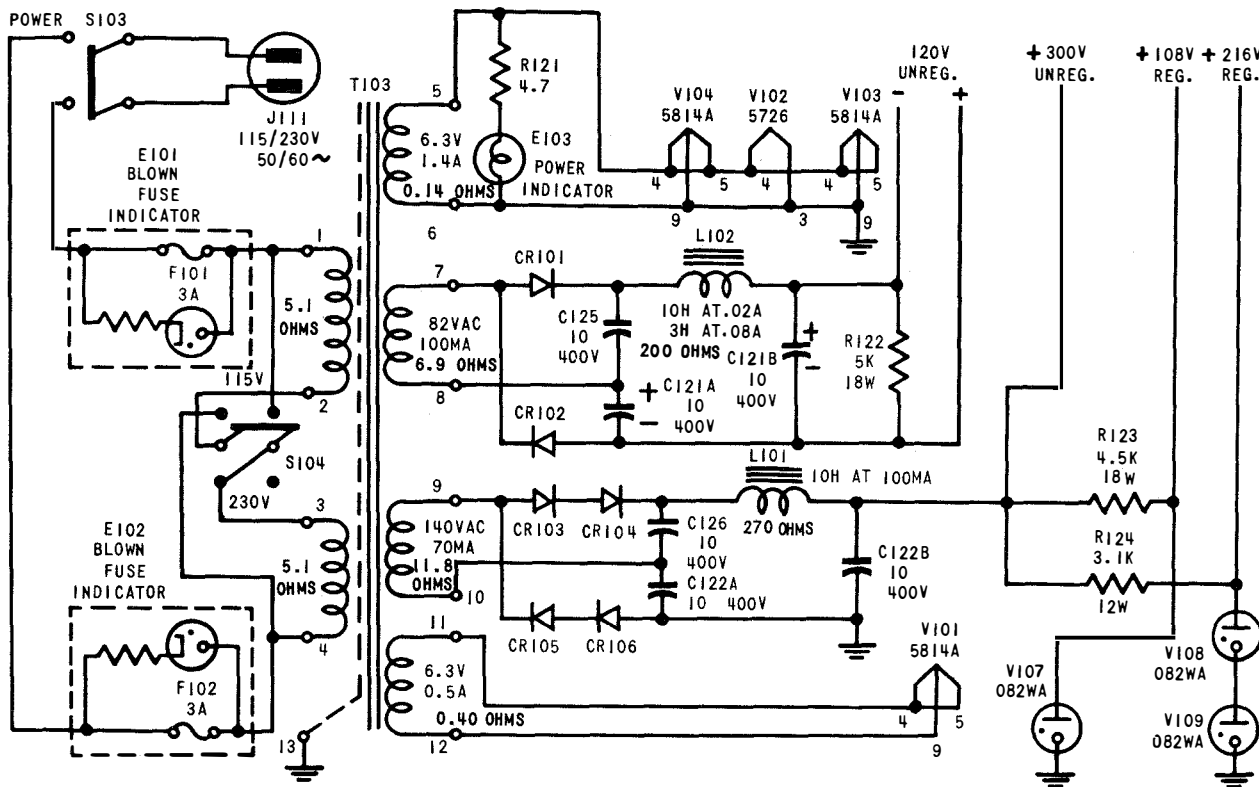

Figure 2-7. Schematic Diagram of Telegraph Carrier Transmitter Power Supply
e. POWER SUPPLY CIRCUIT. - Figure 2-7 is a schematic diagram of the power supply that provides the necessary filament and B+ voltages for the circuits of the telegraph carrier transmitter and the telegraph loop circuits. Primary power is supplied through the ON-OFF switch S103 and the 3 amp fuses F101 and F102, each of which has a neon type BLOWN FUSE INDICATOR E101 and E102. The 115 to 230 volt switch S104, connects the two primary windings of the power transformer T103 in series for 230 volt operation and in parallel for 115 volt operation. A 120 volt source consisting of 82 volt winding of T103, two 1N540 type silicon diodes CR101 and CR102, a swinging choke L102, three 10 mf filter capacitors C121A, C121B, C125, and a 5000 ohm bleeder resistor, R122, supplies 20 to 60 ma for the telegraph loop. Another voltage source is available from the 140 volt winding, two 1N540 type silicon diodes CR103 and CR105, two 1N538 type silicon diodes CR104 and CR106, the 10 henry choke L101, and three 10 mf filter capacitors C122A, C122B, and C126 which supply the B-potentials for circuit operation. From this source is obtained a +300 volt nonregulated supply, a +216 volt supply regulated by a 3100 ohm dropping resistor R124 and two 0B2WA regulator tubes V108 and V109, and a +108 volt supply regulated by a 4500 ohm dropping resistor R123 and one 0B2WA regulator tube V107. The filament supply of the loop oscillator tube V101 is obtained from a separate winding to minimize the danger of a filament to cathode short, since the elements of V101 are completely isolated from ground.